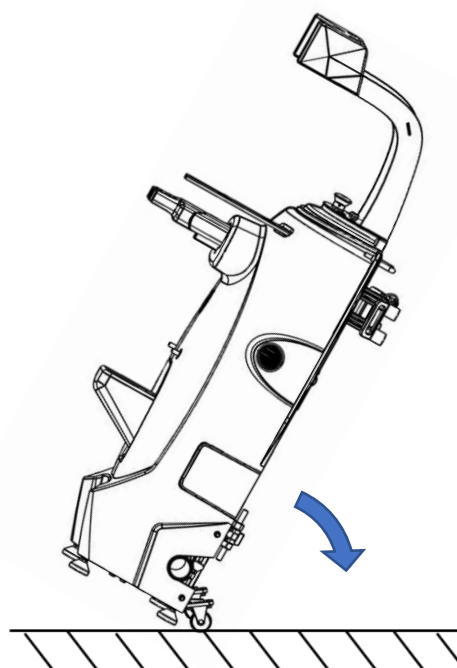

Fig. 2
2. Tilt the station to move it (Fig. 2).